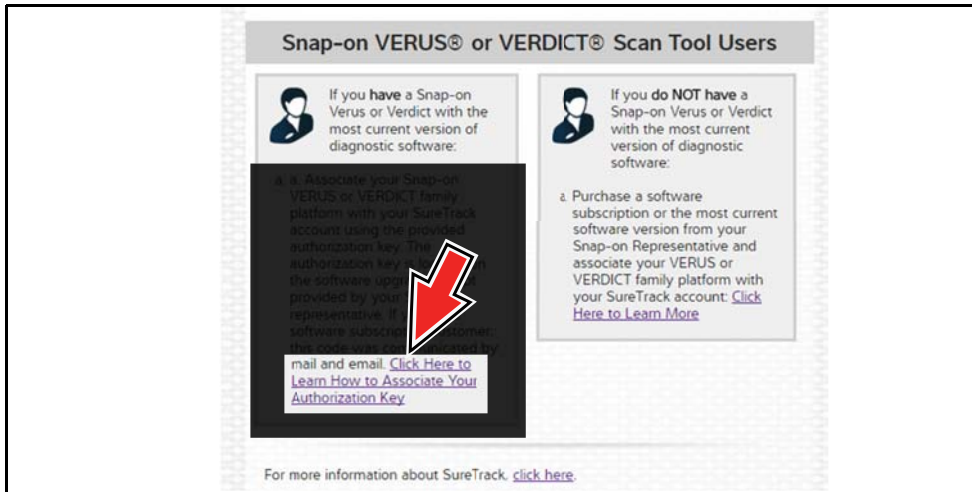

Figure 17-15
When your SureTrack account has expired, and you try to login you are directed to an information window (Figure 17-15).
2. Scroll down and select the link shown in (Figure 17-15)